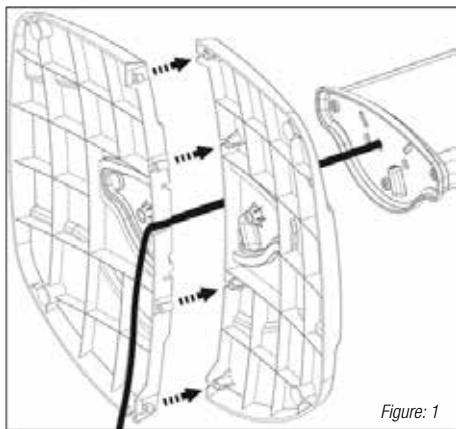

Figure: 1
- Before attaching the right and left base, place the power cord into the hole which is located on the left base. Then attach two parts firmly as shown in Fig. 1.